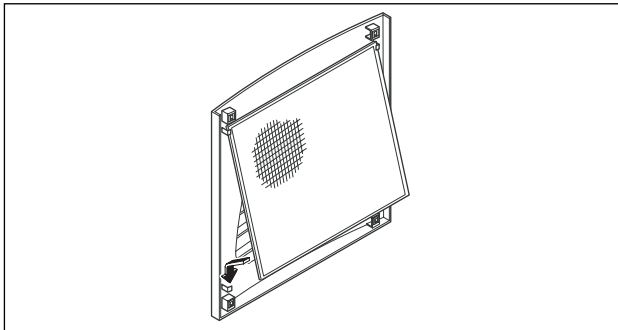

Fig. 24: Install the filter mat
- Insert the filter mat into the louvred grille as shown in Fig. 24 and push it back onto the enclosure.